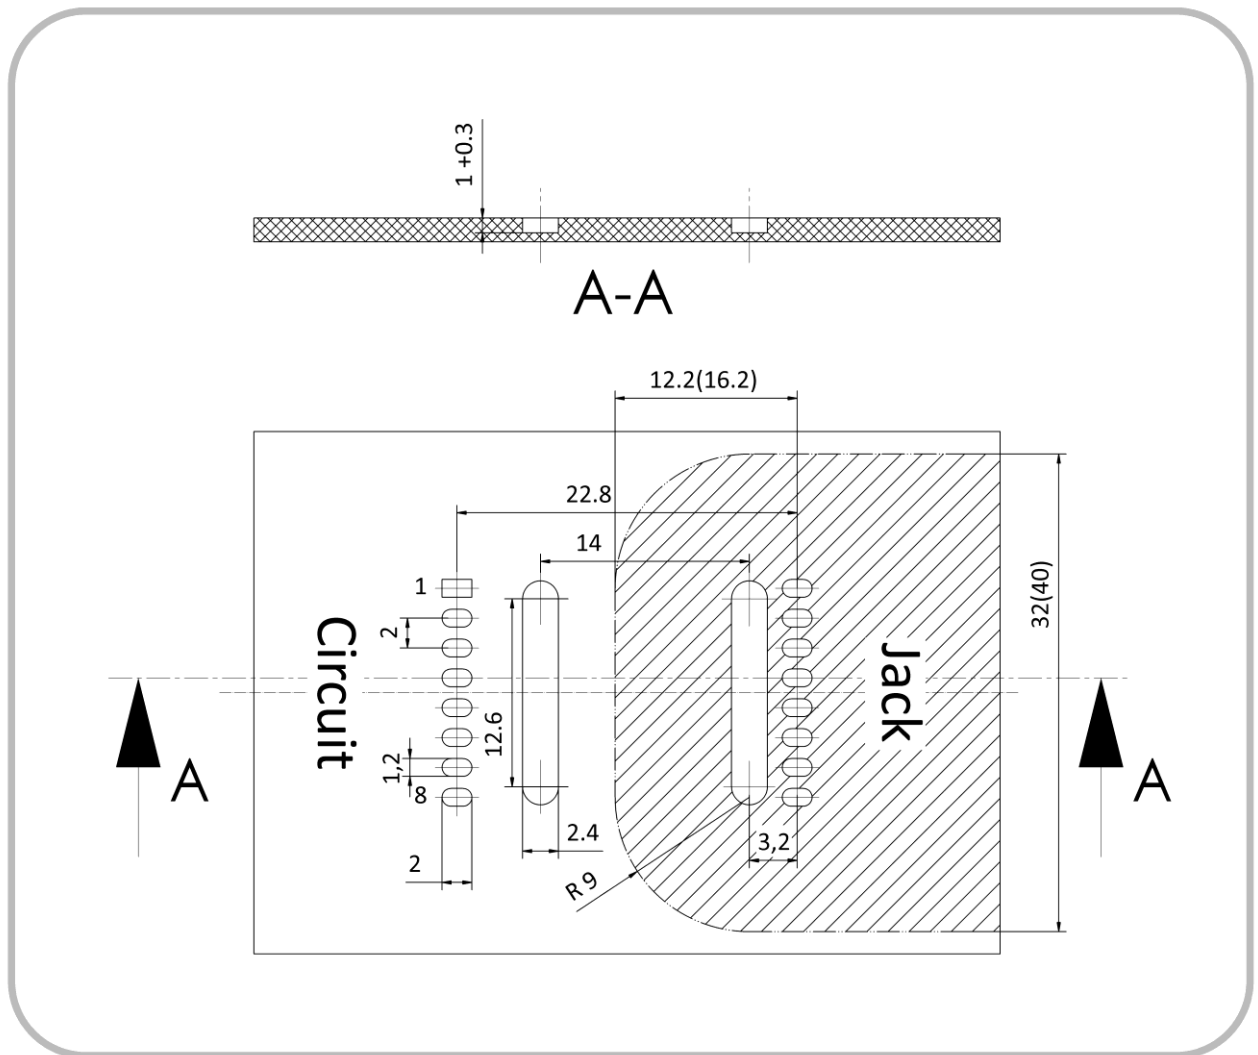

Figure 9. Suggested PCB layout for the EN-100S.
Z-milling to a depth of  $1 \pm 0.3$  mm is required in the rounded rectangular areas as shown in Figure 9, to accommodate the EN-100S.
The dimensions of the hatched area are based upon requirements for realising two means of patient protection (MOPP) for medical electrical (ME) devices. For such ME applications, those with operating voltages of up to 250 V AC require the dimensions indicated in Figure 9 to be met or exceeded, and those with operating voltages of up to 400 V AC require the dimensions indicated in parentheses in Figure 9 to be met or exceeded.